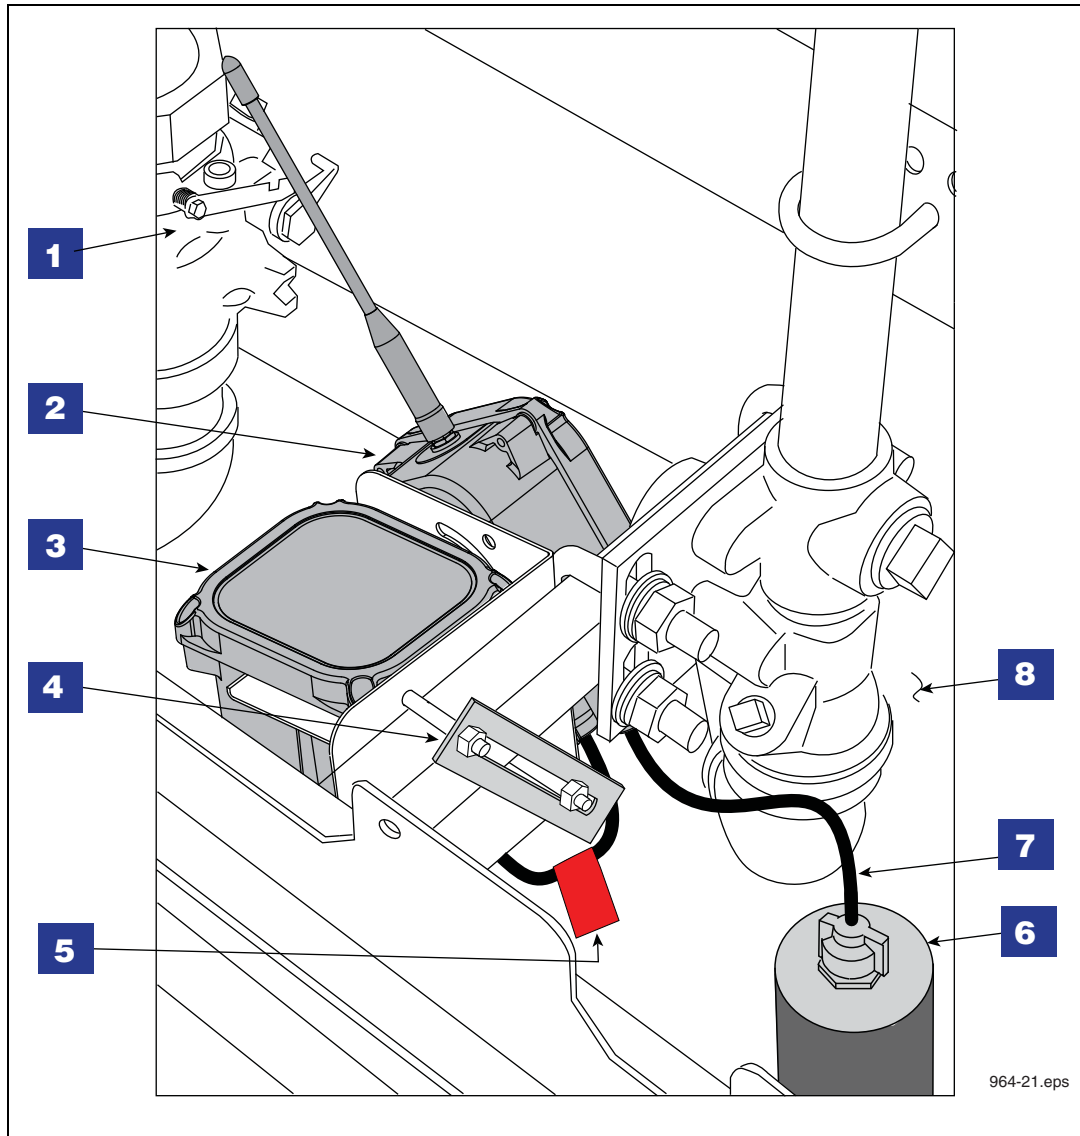

Figure 20. Example Transmitter Installation In Dispenser Sump
**LEGEND FOR NUMBERED BOXES IN Figure 20**